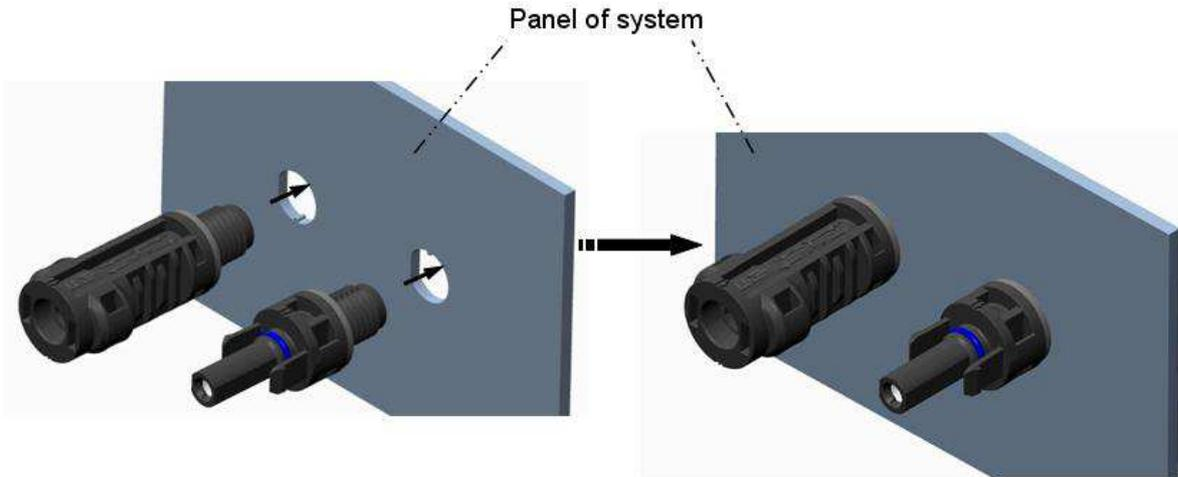

Figure 6
2) Mounting the connector to the panel of invertors or converters (system) (see Figure 6).